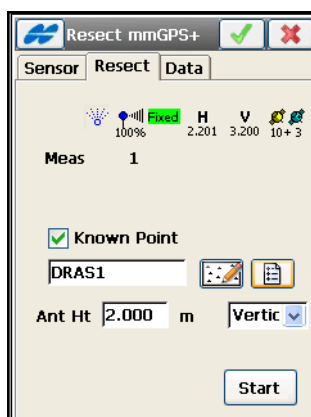

Figure A-4. Use Unknown or Known Point
5. Tap the **Resect** tab (Figure A-4).
When the sensor receives the transmitter's beam, the mmGPS icon displays (Figure A-4 on page A-3).
During the measurement, the *Resect* tab displays the number of GPS epochs used in the resection calculation (Figure A-4 on page A-3).